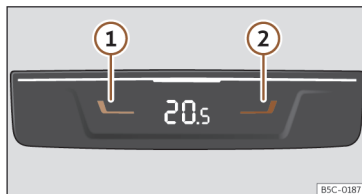

Fig. 147 In the rear part of the centre console: controls for the rear seats.
- Press buttons  and  >>> **Fig. 147** to adjust the temperature of the rear zone.